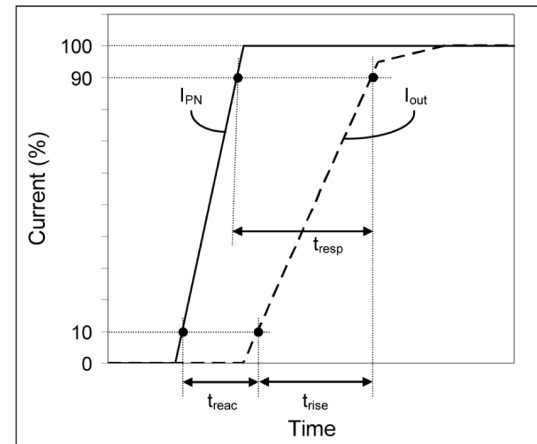

Fig. 2: Definition of reaction time (t_{reac}), rise time (t_{rise}) and response time (t_{resp}).
1) $I_P = I_{PN}$ with di/dt of $200 \text{ A}/\mu\text{s}$. See Fig.2.